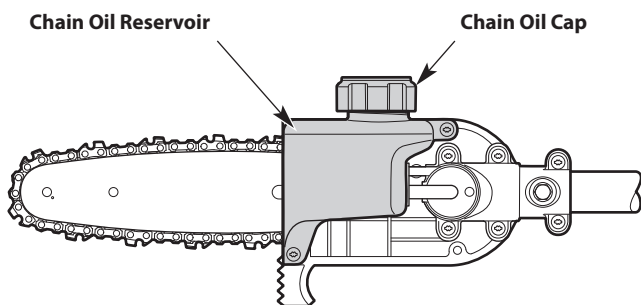

Fig. 10
1. **Set the unit on a flat, level surface. Position the unit with the chain oil cap facing up (Fig. 10).**
2. Make sure that the chain oil reservoir is at least half full (Fig. 10). If the oil level is too low, add bar and chain oil. Refer to *Filling the Chain Oil Reservoir*.
3. Unscrew the chain oil cap (Fig. 10).